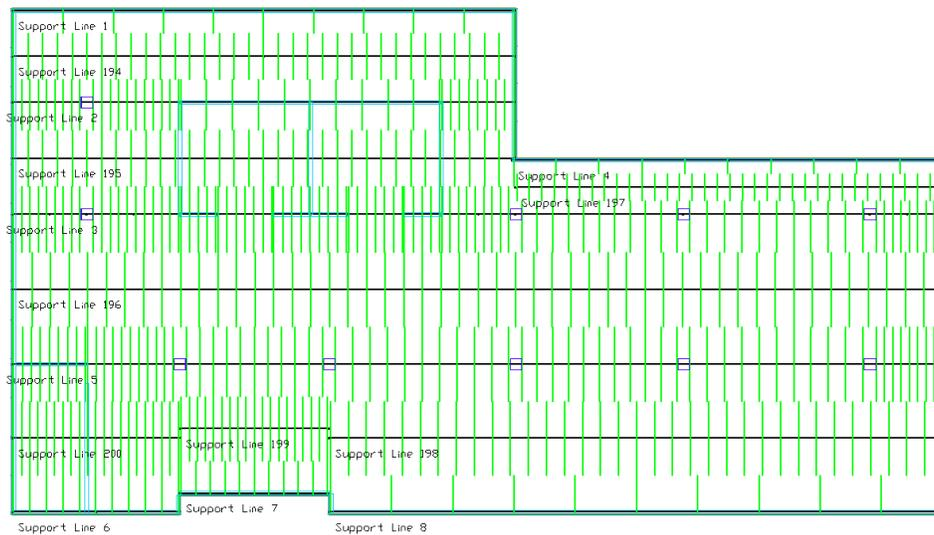

FIGURE 6.8-9 SUPPORT LINES AND DESIGN SECTIONS RESULTS IN X-DIRECTION
- **Figures 6.8-9 and 6.8-10** shows support line example results for the graphical code check.